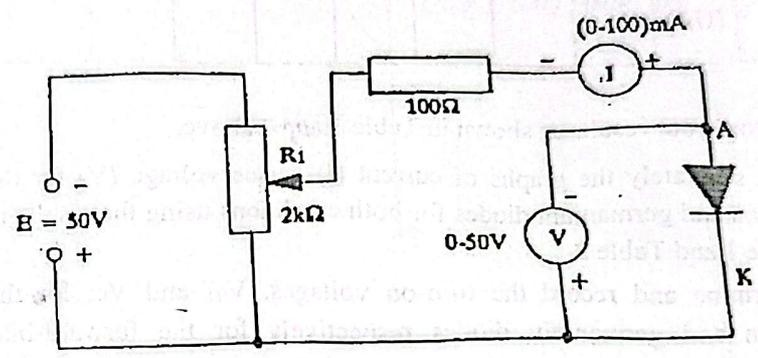

Fig. 2 Reverse-biasing mode of the diode
- (v) Set up the circuit shown in Fig. 2 for the silicon diode.